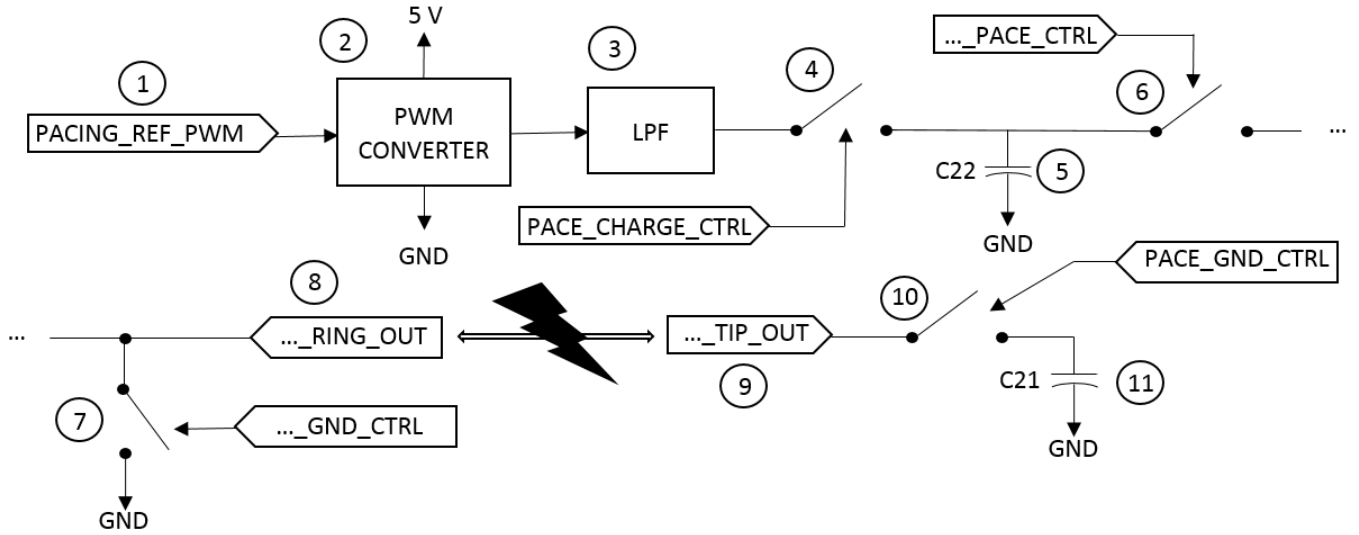

Figure 7: Pacing Flowchart Overview
**Note:** The ellipses (...) prefacing some of the pins in Figure 7 indicate the EXCLUSIVE replacement of *VENT* or *ATR*.